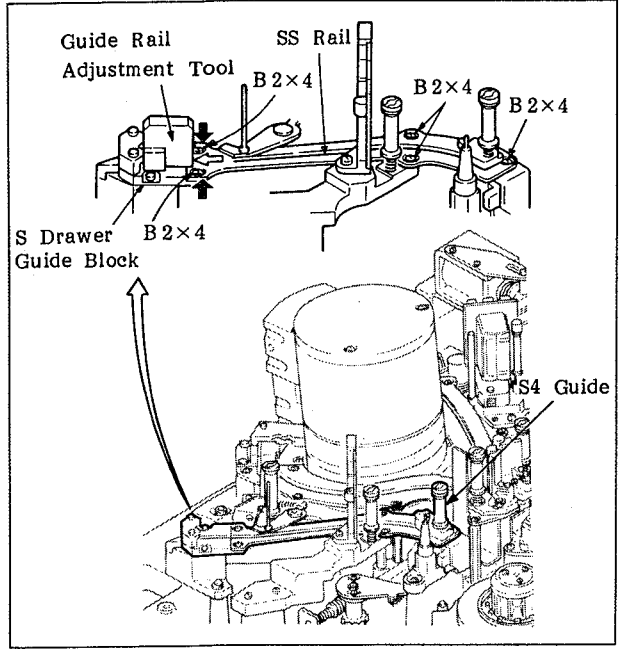

Fig. 6-61. Adjustment of the Attaching Position of the SS Rail
- a. Rotate the threading motor manually so that the S4 guide comes to the position shown in Figure 6-61.
- c. Place the guide rail adjustment tool in the position shown in Figure 6-61 and push it in the direction of the white arrow.